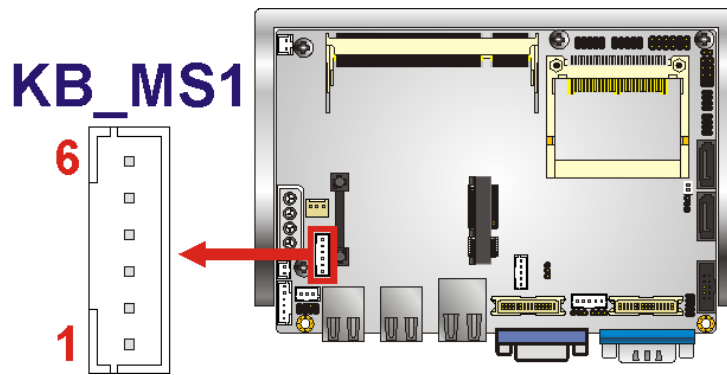

Figure 3-9: Keyboard/Mouse Connector Location
- CN Location:** See Figure 3-9